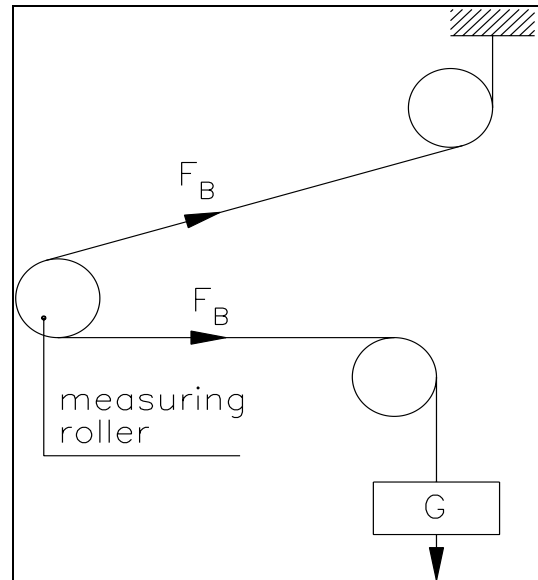

Fig. 12: Calibrating the measuring amplifier C431011e
The following instructions are referring to a setup and calibration inside the machine. The material tension will be simulated by a weight (Fig. 12). Offset and Gain calibration is done in the PLC or the master computer.
- Load material or rope with a defined weight (Fig. 12). The roller configuration must correspond to the real configuration in the machine (wrap angle, distance of the rollers etc.)